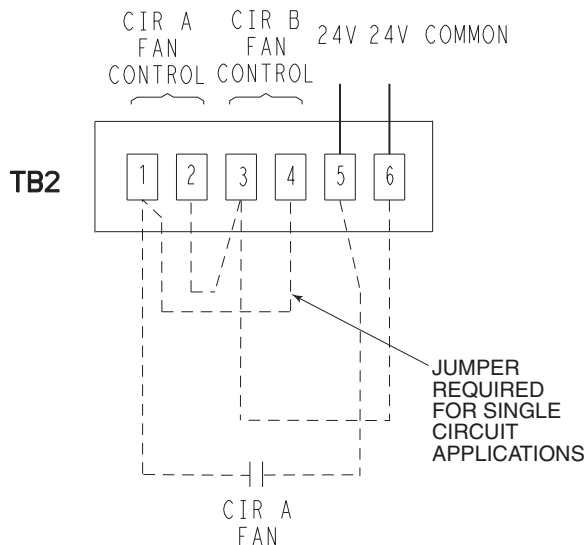

Fig. 31 — Single Circuit 09RC050-230 with 30HX Control Circuit Wiring
- For single unit applications a jumper should be installed between TB2 terminals 1 and 4. See Fig. 31.